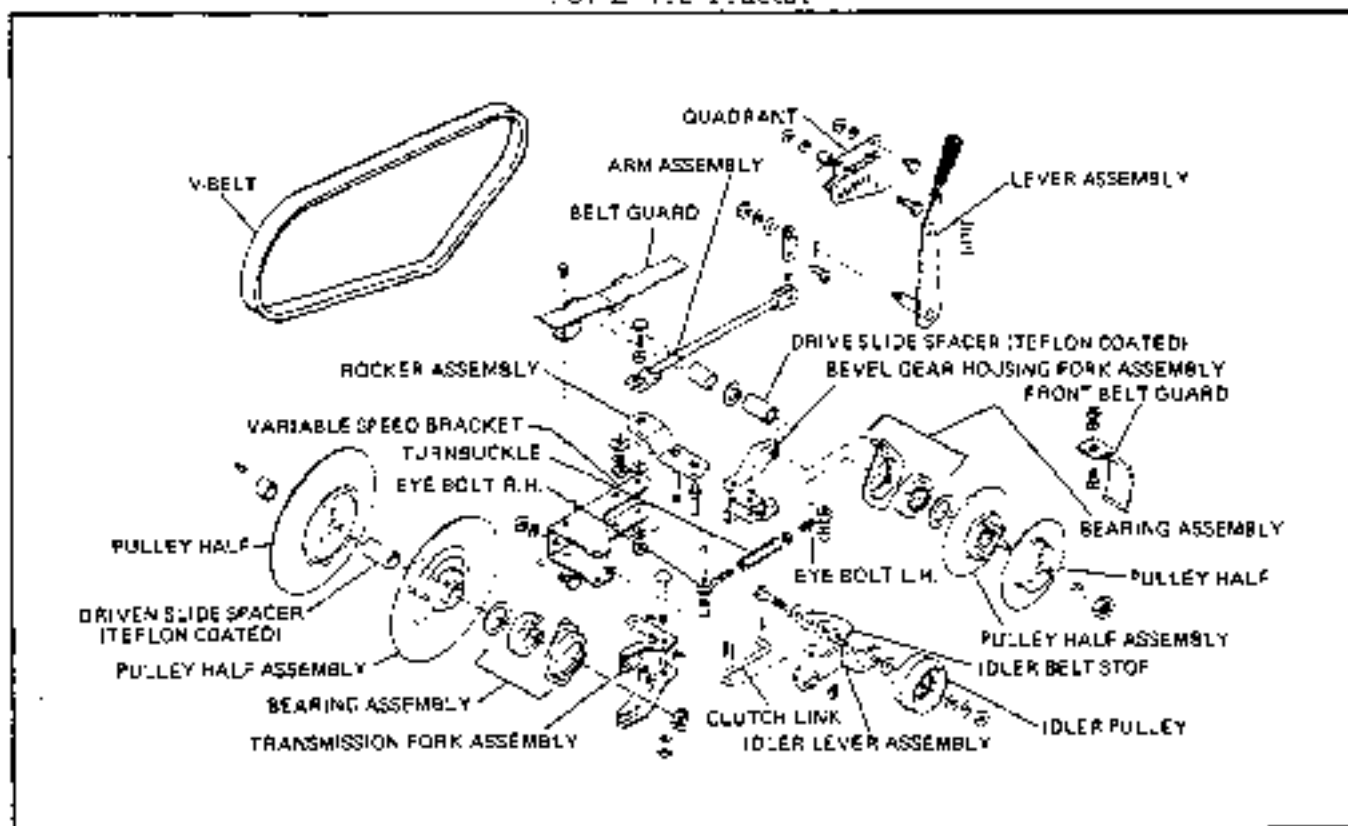

FIGURE 1
1. Block up the rear of the tractor and remove the right rear wheel. Fig. 1.